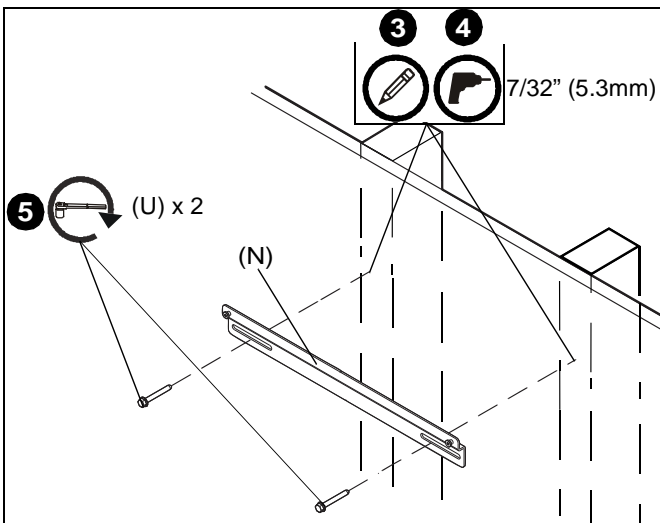

Figure 1
2. Place top bracket (N) against wall at desired mounting location 11.4" above the desired center of the screen. Use a level to ensure a level mount. (See Figure 1)
3. Mark hole locations at each mounting location in the center of each stud. (See Figure 1)
4. Drill two 7/32" holes at marked hole locations. (See Figure 1)
5. Install two 5/16 x 2 1/2" hex head cap screws (U) through holes on top bracket and into drilled holes on wall. (See Figure 1)